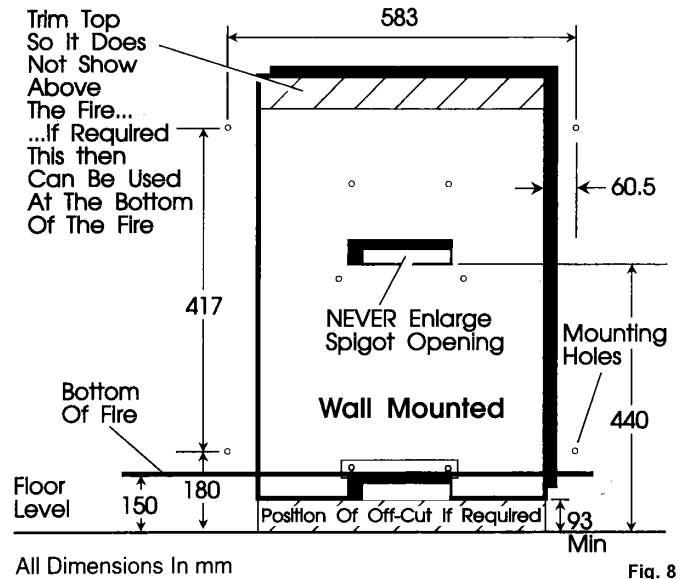

Fig. 8
- When wall mounted, the bottom of the fire must be at least 150mm from the floor or top surface of any combustible material, e.g. Rugs, Carpets, etc. See Fig 8. before the fire is screwed to the wall.